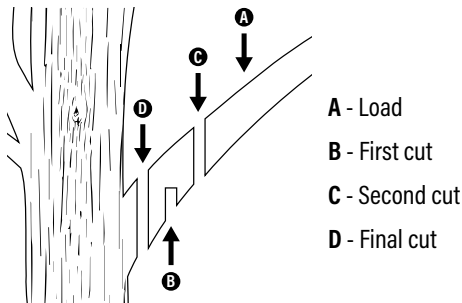

Fig. 6
5. When cutting heavy branches, where a partial cut may splinter and damage the tree, proceed as follows (Fig. 6):